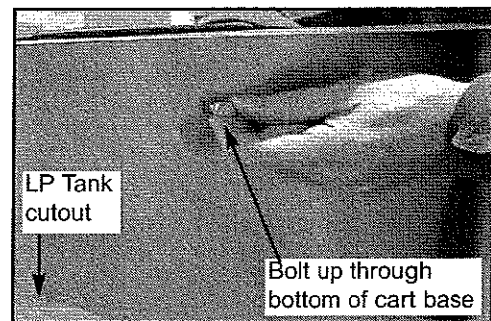

Fig. 2
2. **Door Stop:** Insert Bolt upwards from bottom side of Cart Base through the hole found in the left/front of the base. (See Fig 2)
4. **Door Pivot Bolt:** Insert Bolt upwards from bottom side of Cart Base through the hole found in the right/front of the base and secure with bolt. (See Fig 2)